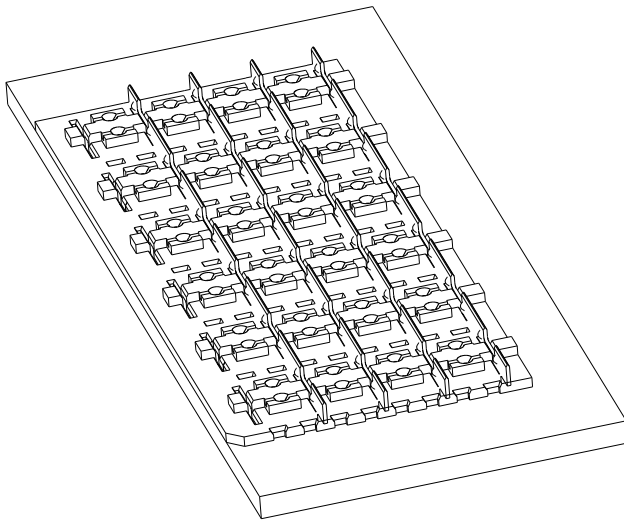

Figure 9
4. Pulling straight up from the board, remove the row as shown in Figure 9. Repeat steps 2 through 4, as required.